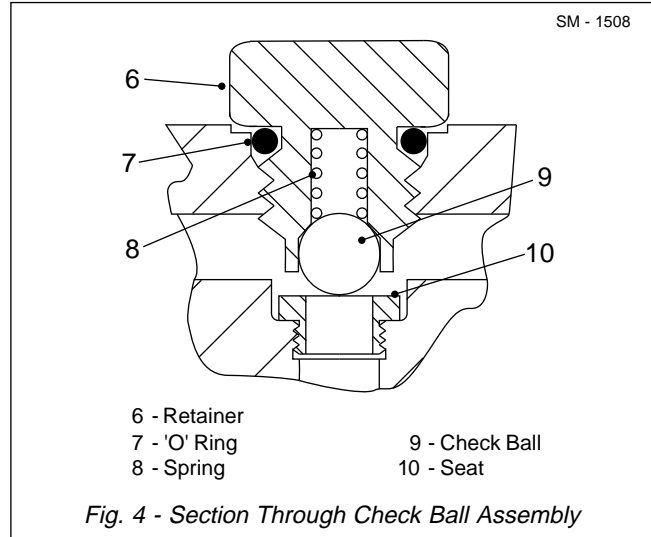

Fig. 4 - Section Through Check Ball Assembly
2. Install solenoid cartridge (2) assembly in valve body (1) and tighten securely. Install solenoid coil (3) on solenoid cartridge (2) and secure with locknut (4).
3. Rotate valve body (1) in vice until retainer (6) face is up. Install new 'O' ring (18) on plug (5) and install plug (5) assembly in valve body (1).
4. If removed, apply Loctite 603 to threads of seats (10) and install seats (10) in valve body (1). Tighten seats (10) to a torque of 20 Nm (15 lbf ft). See Fig. 4.
5. Install one check ball (9) on seat (10) and spring (8) on check ball (9). Install new 'O' ring (7) on retainer (6) and carefully place retainer (6) assembly over spring (8) in valve body (1). Tighten retainer (6) securely in valve body (1). See Fig. 4.
7. Install pressure switches (19 & 20) in valve body (1) as noted during disassembly.
8. If removed, install hydraulic line connectors in valve body (1) as noted during disassembly.
1. Place pump in a soft-jawed vice, driveshaft (12) down. Match mark all pump sections with a punch to aid assembly. See Fig. 4.